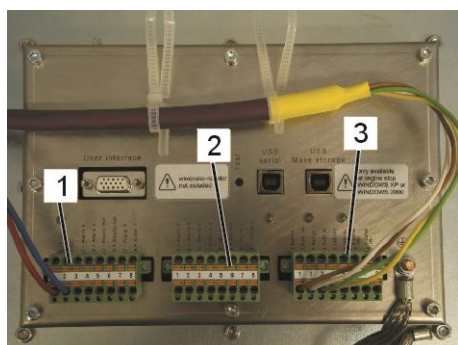

Fig. 87: Connectors
- X11: Power supply and alarm contacts (Fig87/1)
- X13: Bus cable from Line Converter box (Fig87/3)